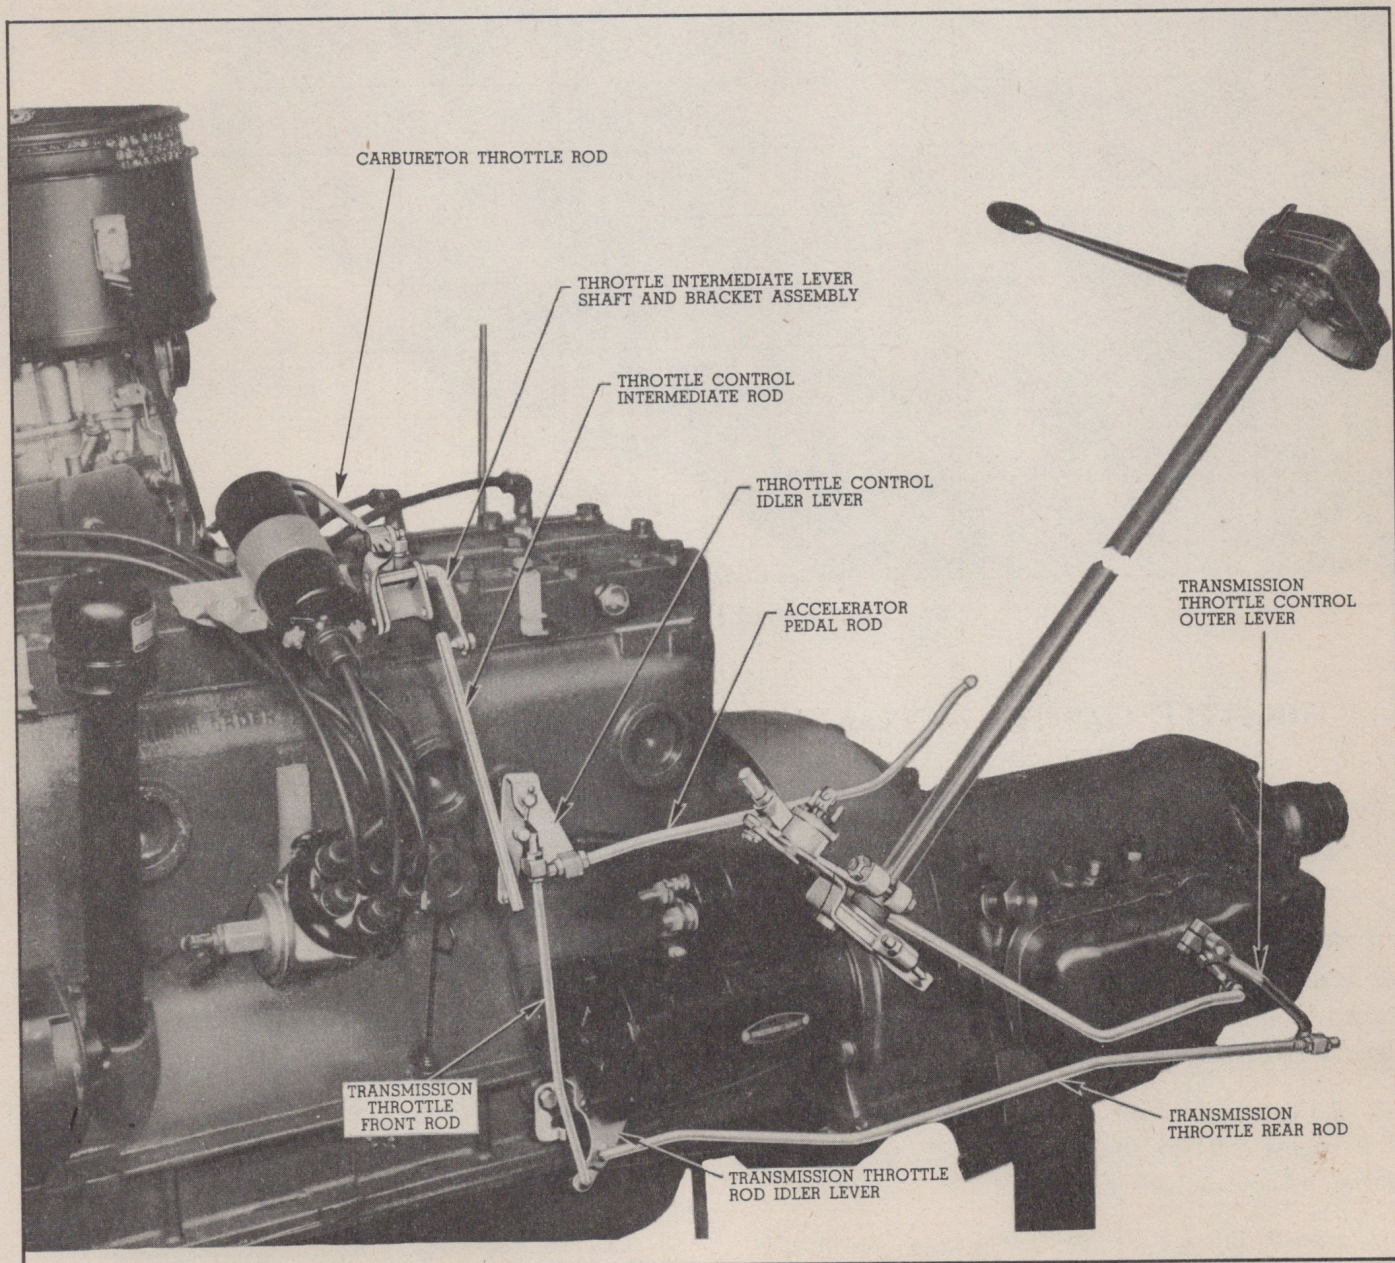
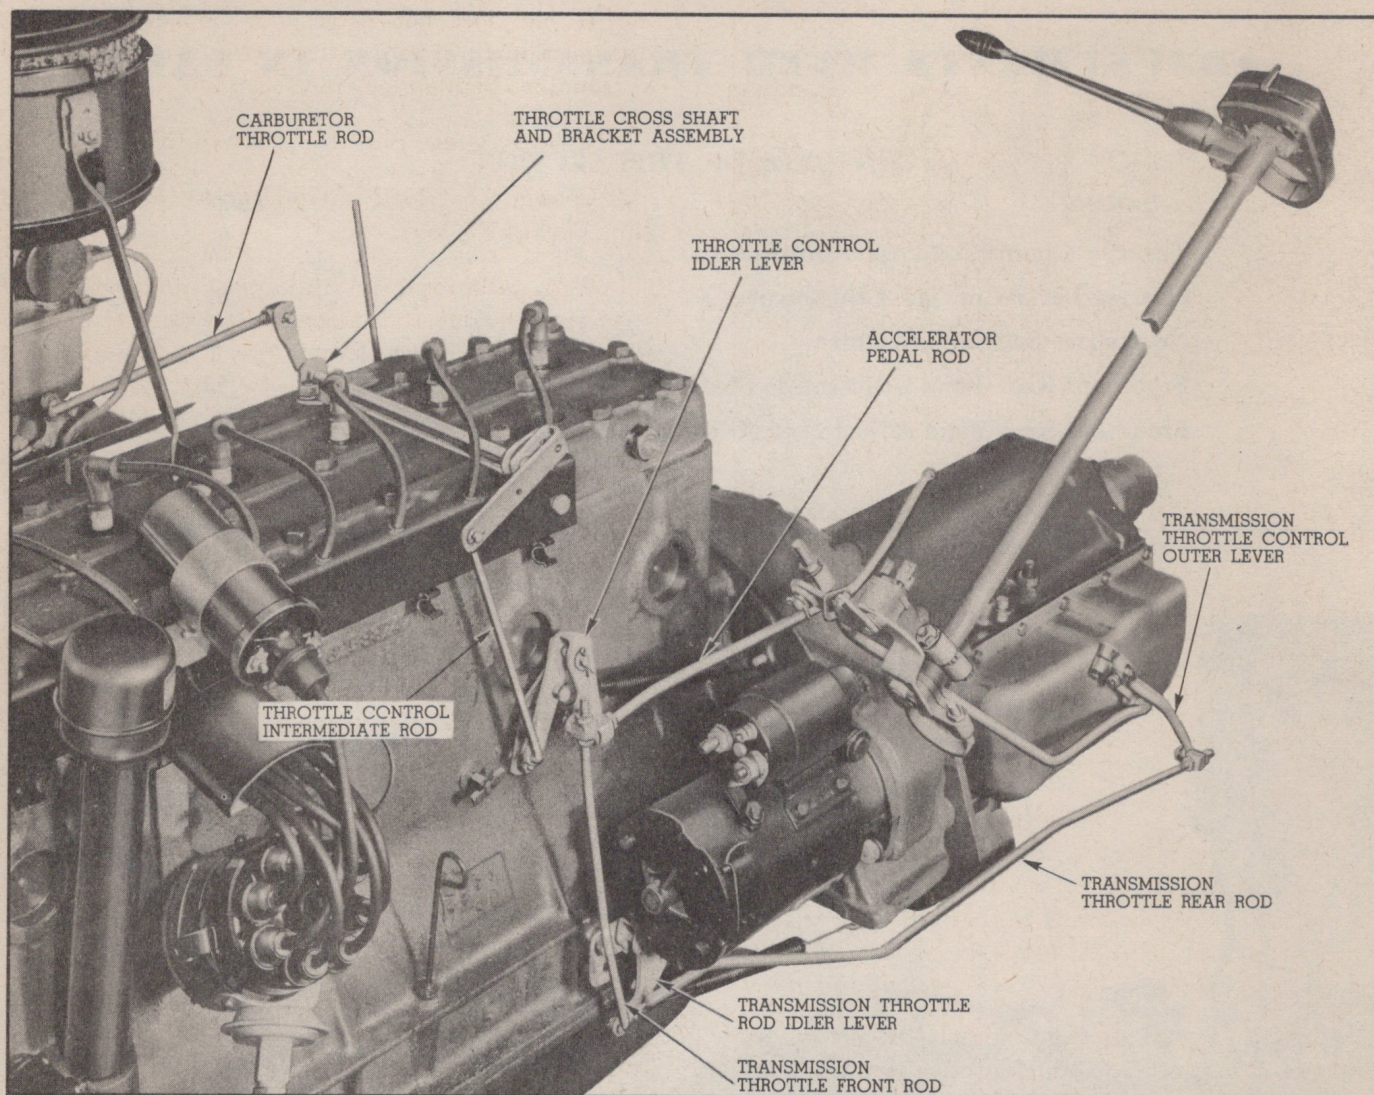

Fig. 68—Control Linkage—6 Cylinder
Fig. 69—Control Linkage—8 Cylinder
1. Remove cotter pin and washers from trunnion on transmission throttle rear rod at transmission throttle control outer lever (Fig. 68 and Fig. 69) and remove rod from lever.
4. With idle adjusting screw seated against its stop, adjust length of carburetor throttle rod (Fig. 68 and Fig. 69) at lock nuts so that adjustment gauge pin is free in hole "A". Leave pin installed. Tighten lock nuts securely.
6. If pin does not enter hole "B" freely, adjust transmission throttle front rod (Fig. 68 and Fig. 69) at trunnion. Tighten lock nuts securely.
8. Loosen front lock nut on accelerator pedal rod (Fig. 68 and Fig. 69).